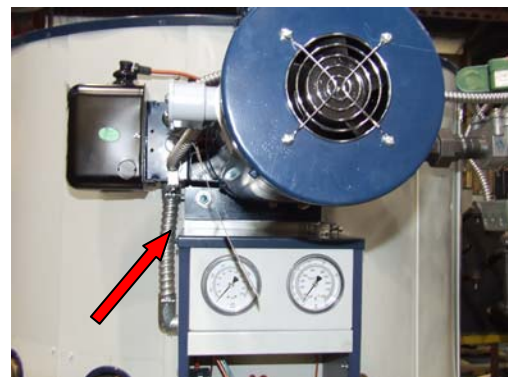

Figure 3
7. Disconnect all conduit between components on the chamber jacket and main control enclosure. Refer to Figure 3.